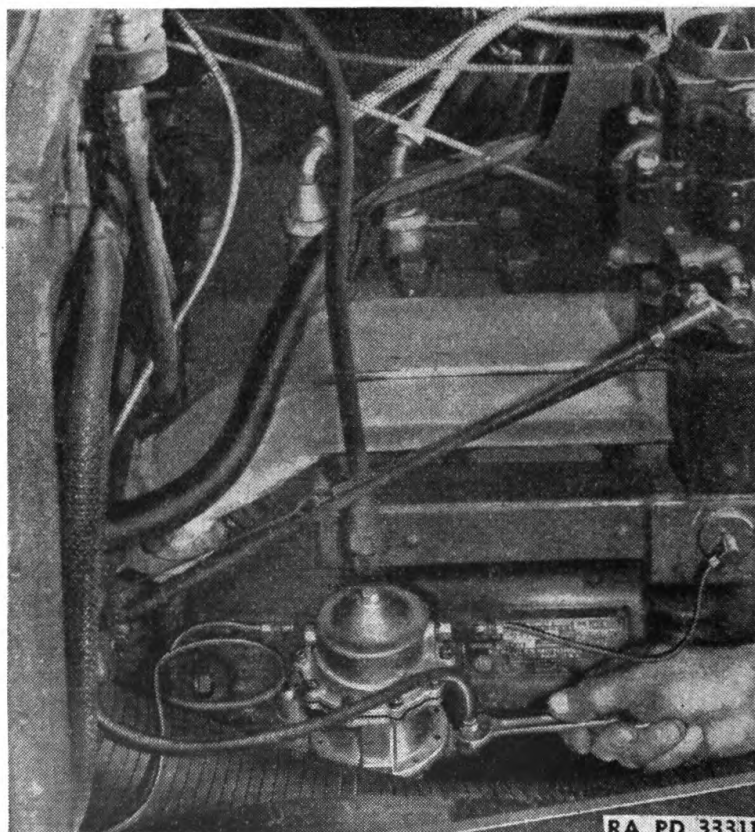

FIGURE 190.—Disconnecting fuel pump lines.
55. Fuel pump.—a. Description (fig. 190).—The combined fuel and vacuum pump is located at the lower right-hand side of the engine and is bolted to the engine crankcase.
Disconnect fuel pump line inverted flared tube nut from pump inlet fitting and carburetor fuel line inverted flared tube nut from pump outlet fitting (fig. 190).